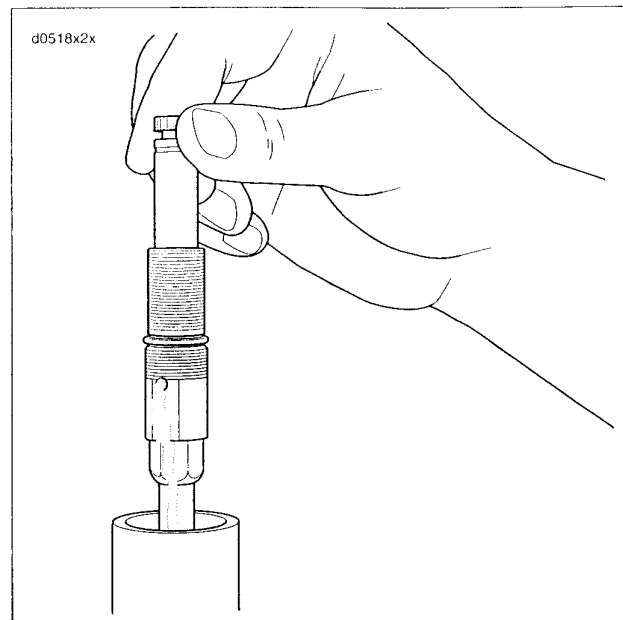

Figure 2-97. Pumping Damper Rod
13. See Figure 2-97. Slowly pump the damper rod 10 or more times.